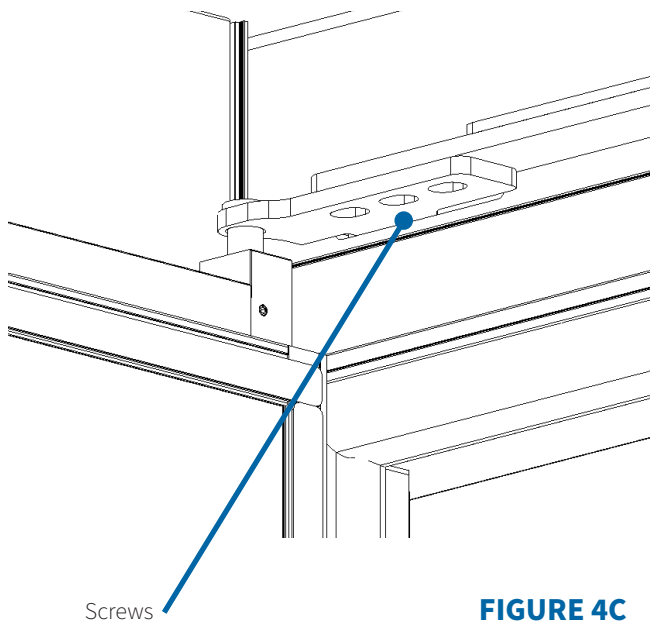

FIGURE 4C
3. Remove three screws from top hinge as per Figure 4C. To adjust the door, make sure the door is level before retightening the screws during installation.